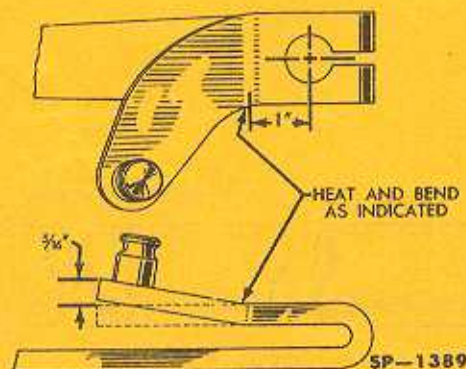

FIG. 2.
- h. On the earlier models, where the clutch pedal is adjustable on the clutch cross shaft for the purpose of eliminating cross shaft end play or rattle, the clutch pedal will have to be bent as shown in Fig. 2 to provide clearance between the clutch pedal return spring and the lubrication fitting.